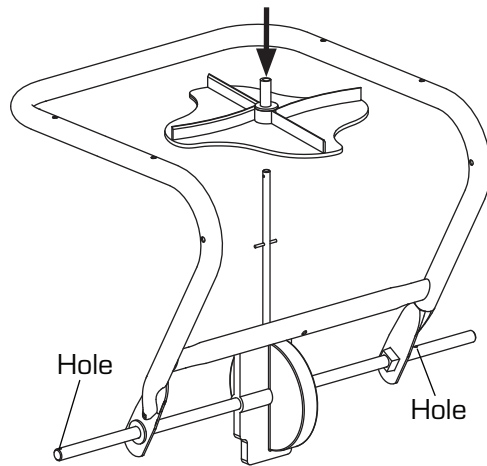

Figure 1
1. Install spinner to spinner shaft. Press down on spinner until it snaps into place on the roll pin, Figure 1.
2. Install axle/transmission assembly into frame as shown, Figure 1.
IMPORTANT! Note the orientation of the axle / transmission assembly is critical. See the hole locations in Figure 1. One side has hole near the end of the axle, the other next to the frame.
3. Slide the axle bearings over the axle and into place in the frame, Figure 1.